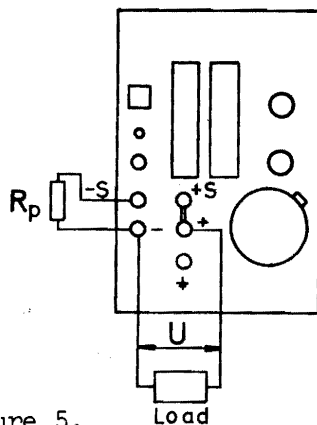

Figure 5.
3. Connect load and programming resistor R_p according to figure 5.